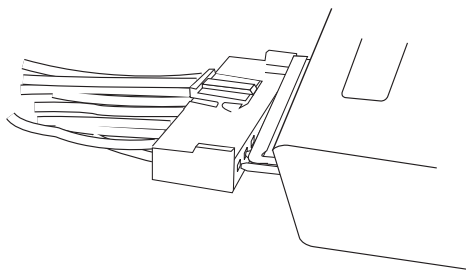

Fig. 6
Step 7. Attach the wiring harness to the receiver. See Fig. 6.